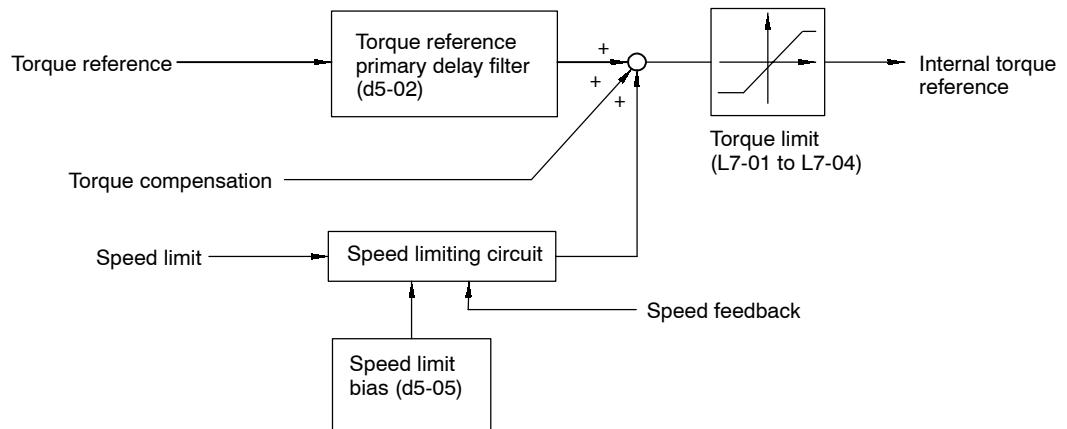

Fig 7.10 Torque Control Block Diagram
- *Figure 7.10* shows the operation of torque control.